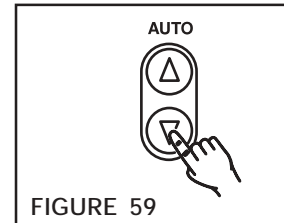

FIGURE 59
1. Press the downward **AUTO** Key to advance the TC820 to the **FULLSCALE** function (See Figure 59).